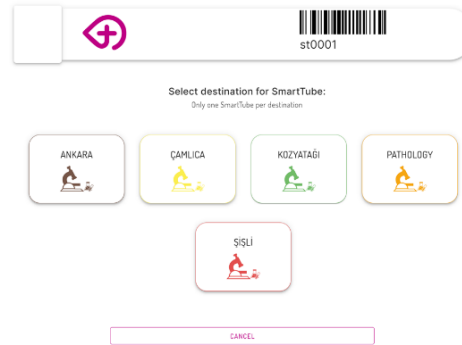

Figure 23. Select route for SmartTube
- b. Click on the desired route (see Figure 23). Only one route may be selected.